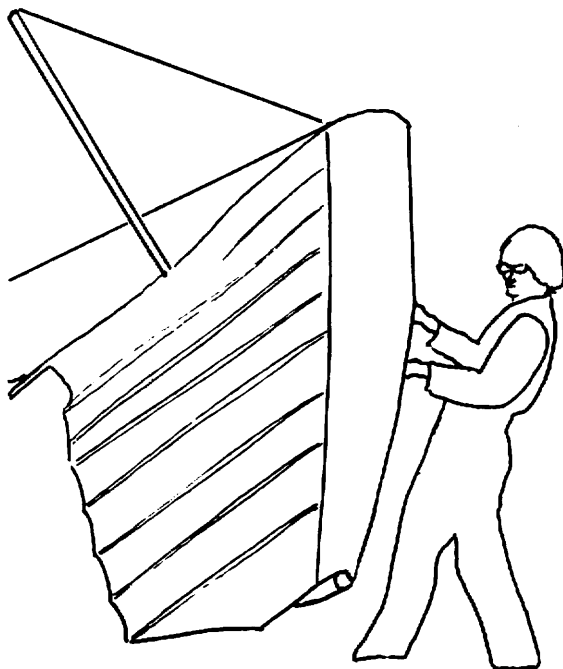

Fig 19
12) Spread the wings all the way and check all wires for twisted thimbles or tangs. (Fig 19 and 20)